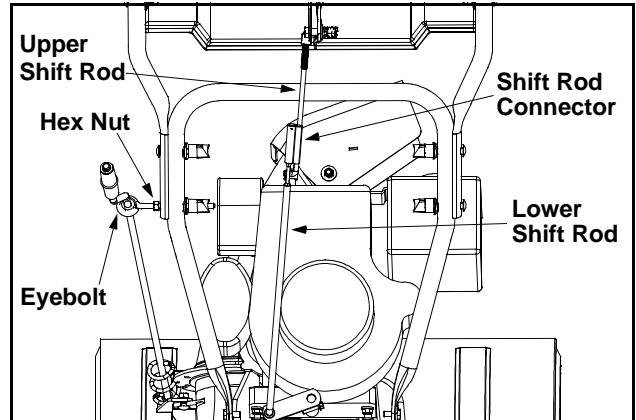

Figure 4
5. Adjust the eyebolt on the chute directional control so the control rod does not come into contact with the engine by moving the hex nut against the handle (if necessary). Retighten the wing nut to secure the chute directional control in this position. See Figure 4.